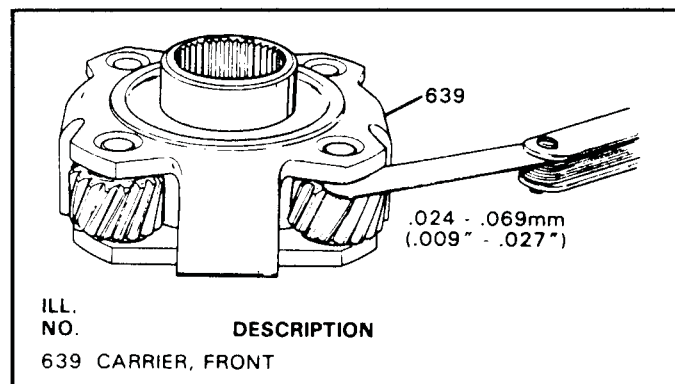

Figure 79
56. Inspect the front carrier for any wear or damage, and measure pinion end play with a feeler gage as shown in Figure 79.
57. Pinion gear end play should be .009" to .027" as shown in Figure 79.